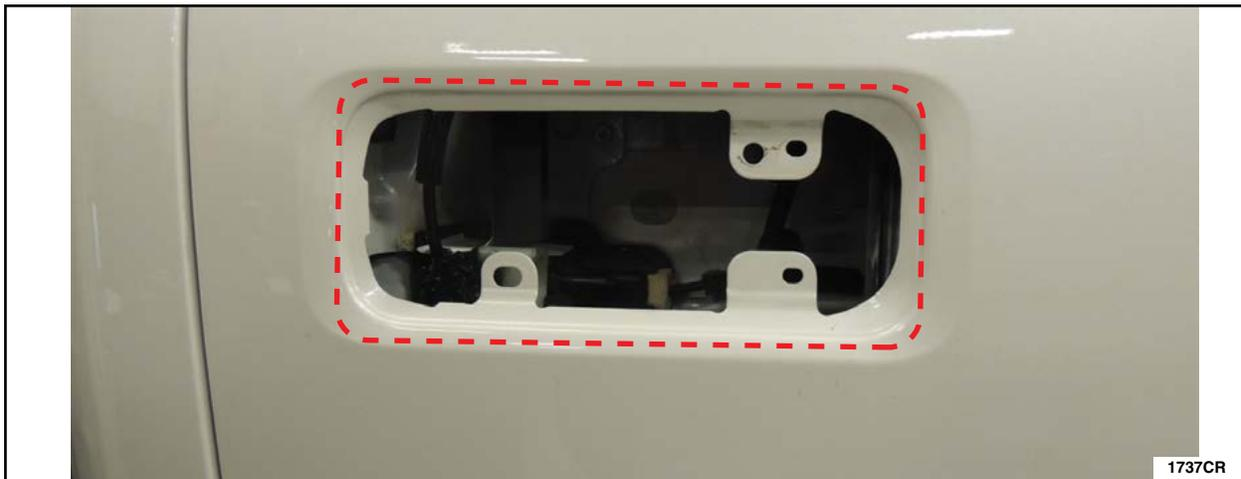

FIGURE 32
15. Thoroughly remove the existing TA-30 silicone sealant then using a clean shop cloth and isopropyl alcohol clean inside the dotted lines on the mating surface area of the rear exterior door handle openings. See Figure 32.